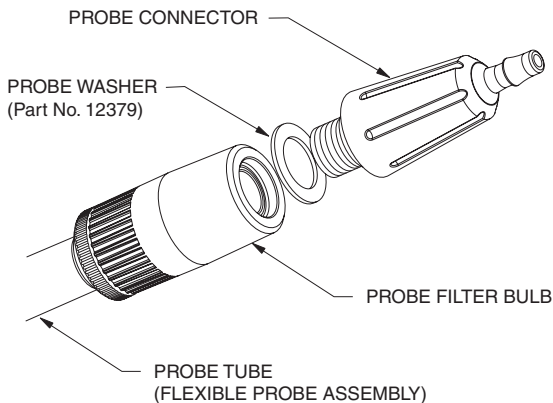

Fig. 12.1 Probe Connector Removal
- 1) Hold the probe filter bulb then unscrew the probe connector in a counter clockwise direction and remove the connector from the probe filter bulb as shown in Fig. 12.1.